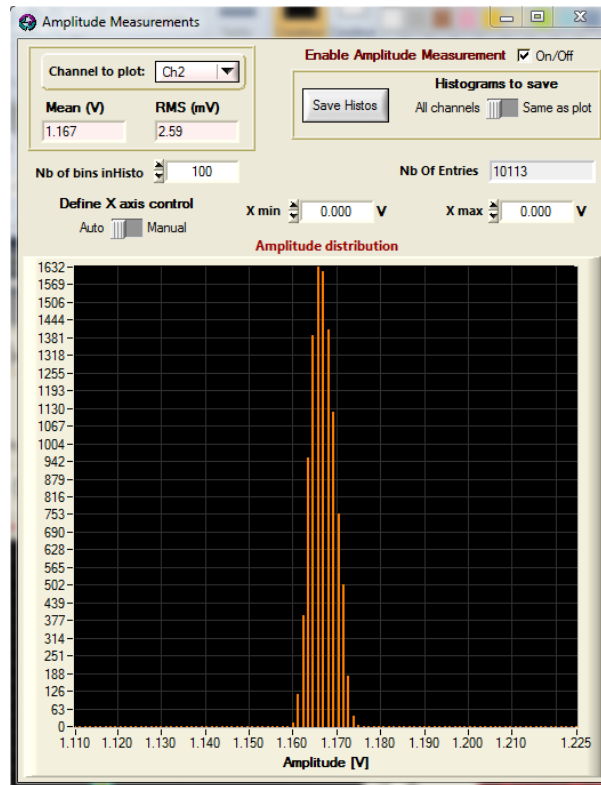

Figure 5.18: *Amplitude Measurements window*
- **Amplitude Measurements:** by clicking on this item, the user opens an eponym window (see **Figure 5.18**). In order to perform the measurement, the On/Off checkbox has to be checked.